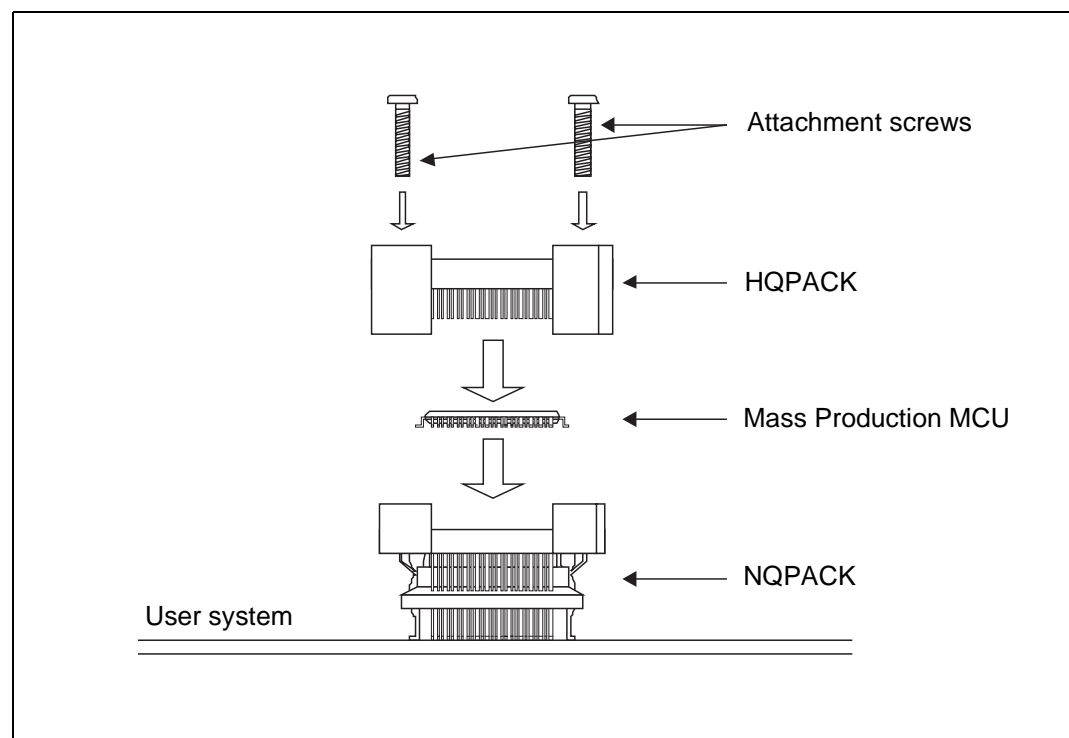

Figure 3.3 Mounting a Mass Production MCU Model
2. Check that the mass production MCU is correctly inserted into the NQPACK, and then align the index marks on the HQPACK and NQPACK (angle cut linearly at one place only) and insert (See Figure 3.3).